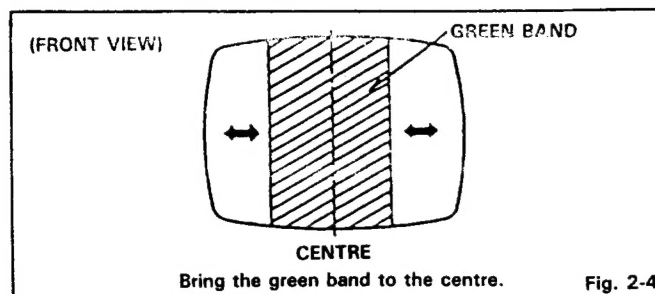

Fig. 2-4
4. Turn the green cut-off control to maximum and the red and blue cut-off controls to minimum. Then adjust the screen control so that the green band can be seen best. (Fig. 2-4)